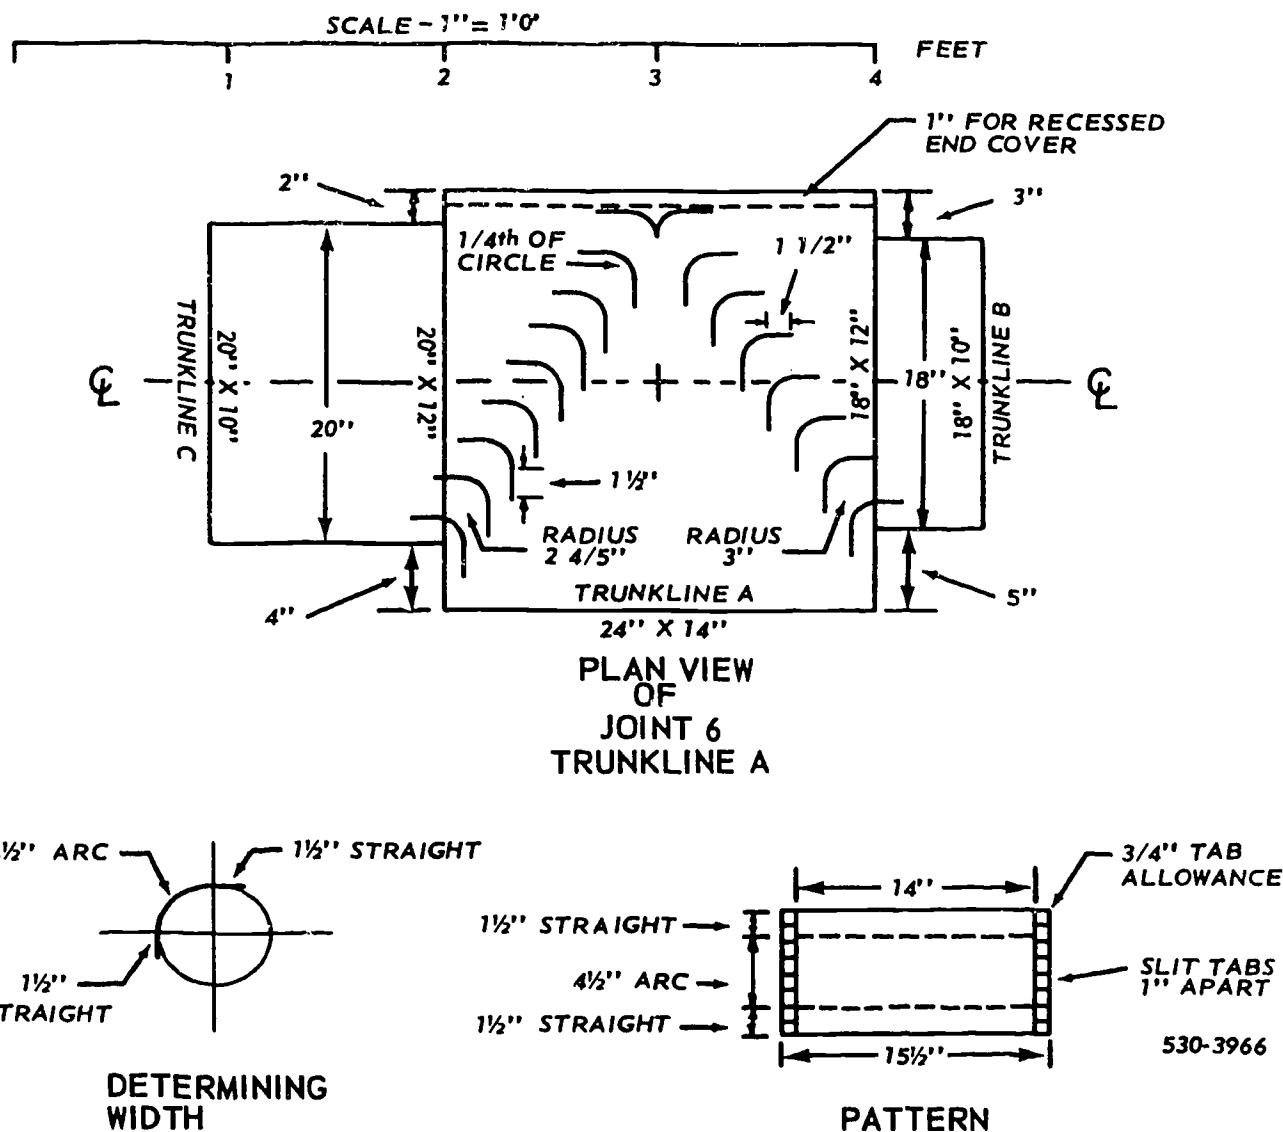

Figure 4-16. Pattern for turn vanes.
**Turn Vane Patterns.** In an earlier chapter of this text, you learned how to determine the width, length, spacing, and number of turn vanes to achieve maximum airflow through a 90° rectangular elbow. You must have this information before you make the pattern. Figure 4-16 is an enlarged plan view of joint 6 of trunkline A, which contains two sets of turn vanes.
The next step is to determine how many turn vanes you need. Divide the  $2\frac{4}{5}$  (2.8) inch spacing into the length of the turn vane rows. As you can see in figure 4-16, the row for trunkline B has eight turn vanes and the row for trunkline C has nine turn vanes. In both computations, the actual number of turn vanes is a mixed number that has been rounded off to the nearest
whole number. In this step you also find that the curved part of the turn vane is  $4\frac{1}{2}$  inches and each straight is  $1\frac{1}{2}$  inches. Thus, the dimensions for each turn vane are  $7\frac{1}{4}'' \times 14''$ . (If necessary, refer to fig. 3-6 to refresh your memory concerning dimensions of turn vanes.) When you add the  $\frac{3}{4}$ -inch tab allowance to each end of the pattern, the total dimensions become  $7\frac{1}{2}'' \times 15\frac{1}{2}''$ , as shown in figure 4-16. Notice also that the  $\frac{3}{4}$ -inch tab allowance has been marked to show the slits, which are approximately 1 inch apart. During installation, these tabs are bent  $90^\circ$  and riveted to the top and bottom of the duct joint.
The  $\frac{3}{4}$ -inch slits in the pattern for the turn vane shown in figure 4-16 are spaced approximately 1 inch apart so that the tabs can be bent  $90^\circ$  for fastening to the duct. When you cut slits like these, be careful to make all of them exactly  $\frac{3}{4}$ -inch long so that the tabs can be bent properly.
*Turn vanes.* Seventeen turn vanes for joint 6 in trunkline A are to be made from the pattern shown in figure 4-16. After you have done the cutting out and slitting, you bend each turn vane to a radius of 2.8 inches with 1½-inch straight edges. Then you bend the alternate 3/4" x 1.07" tabs for 90° so that you can fasten the turn vanes inside the duct joint somewhat like the splitters shown in figure 3-5. Rivet or spot weld each turn vane to the top and bottom of joint 6.